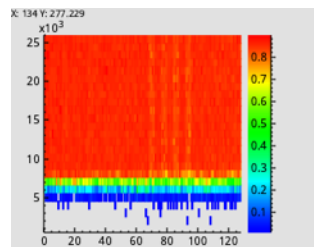

Figure 15. Current settings plot
5. Current threshold: This can be used to check what is the level of alignment for the current settings. The plot produced is as shown in Figure 15. It makes a charge scan for each channel so that we can see where the threshold is set for each of them. In the figure it is about 6000 e-.